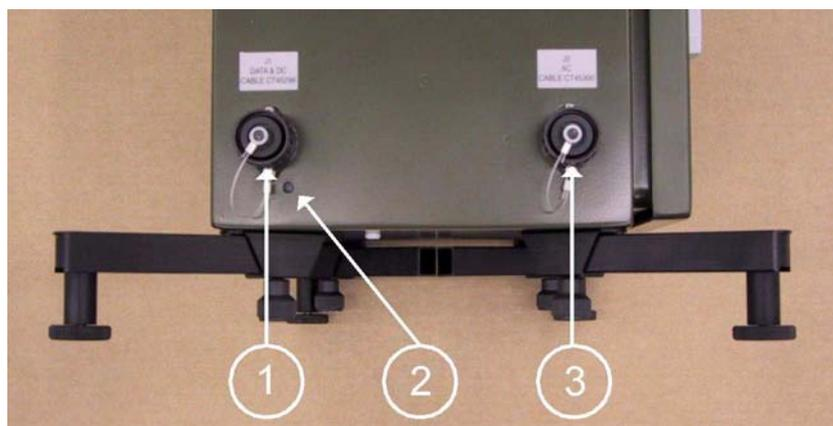

Figure 57 Connectors on Ceilometer CT25KAM
5. Connect the DC/DATA cable to the **J1** connector (number 1 in Figure 57 on page 69) on the ceilometer and the other end to the **CT25KAM** connector on the Mains Power Supply QMP202 (see Figure 54 on page 66).
6. Connect the AC cable to the **J2** connector (number 3 in Figure 57 on page 69) on the ceilometer and the other end to the **AC TO CT25KAM** connector on the Mains Power Supply QMP202 (see Figure 54 on page 66).
7. Verify the operation of CT25KAM with the status LED (number 2 in Figure 57 on page 69). For the states of the status LED, see Table 13 on page 69.